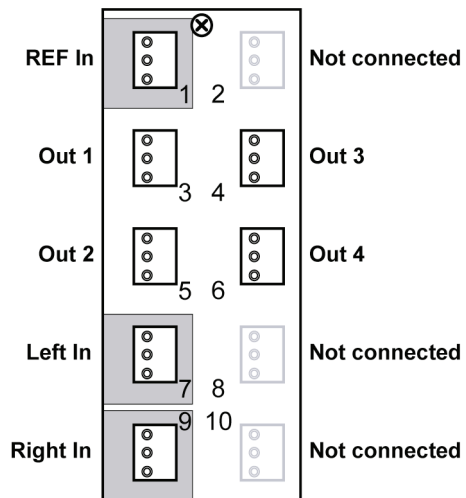

Figure 5. Cable Connections for the R1A-8432 and the R2A-8432 Rear Modules
- **R1A-8432 Rear Module** — Each card occupies one slot and provides one 110Ω AES/EBU external reference input, four 110Ω AES/EBU outputs on WECO connectors, and one stereo analog audio input on 3-pin Weco block connectors. Refer to **Figure 5** for cable connections.
- **R2A-8432 Rear Module** — Each card occupies two slots and provides one 110Ω AES/EBU external reference input, four 110Ω AES/EBU outputs on BNC connectors, and one stereo analog audio input on 3-pin Weco block connectors. Refer to **Figure 5** for cable connections.